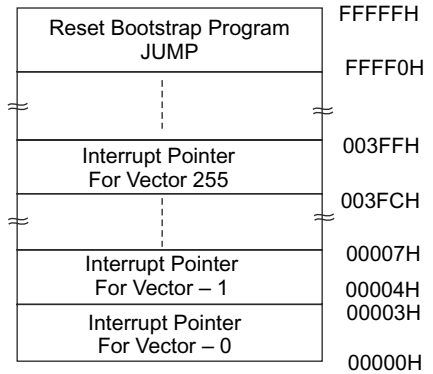

Fig. 11.20 Reserved memory locations in 80286 Real Address Mode
In real address mode, the 80286 reserves two fixed areas of memory, namely, system initialization area and interrupt table area. Memory locations from addresses FFFF0(H) to FFFFF(H) are reserved for system initialization. The memory location from 00000(H) through 0003FF(H) are reserved for interrupt vectors as depicted in Fig. 11.20.